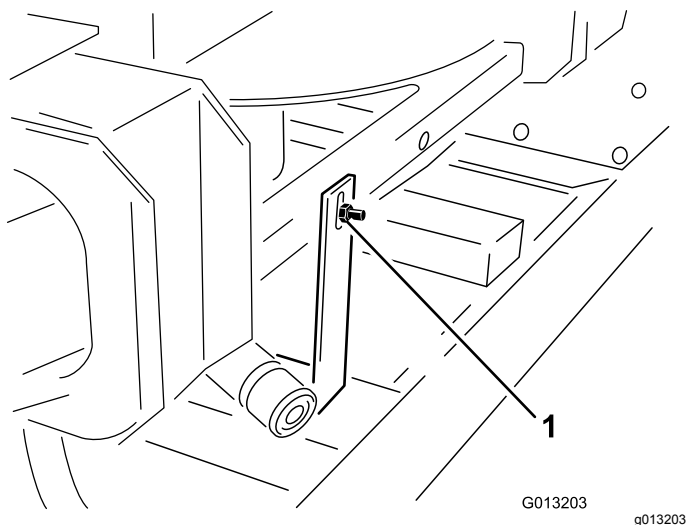

Figure 3
2. At the rear of the twin spinner, remove the bolt and nut attaching the machine lifting device shipping bracket to the twin spinner (Figure 3).